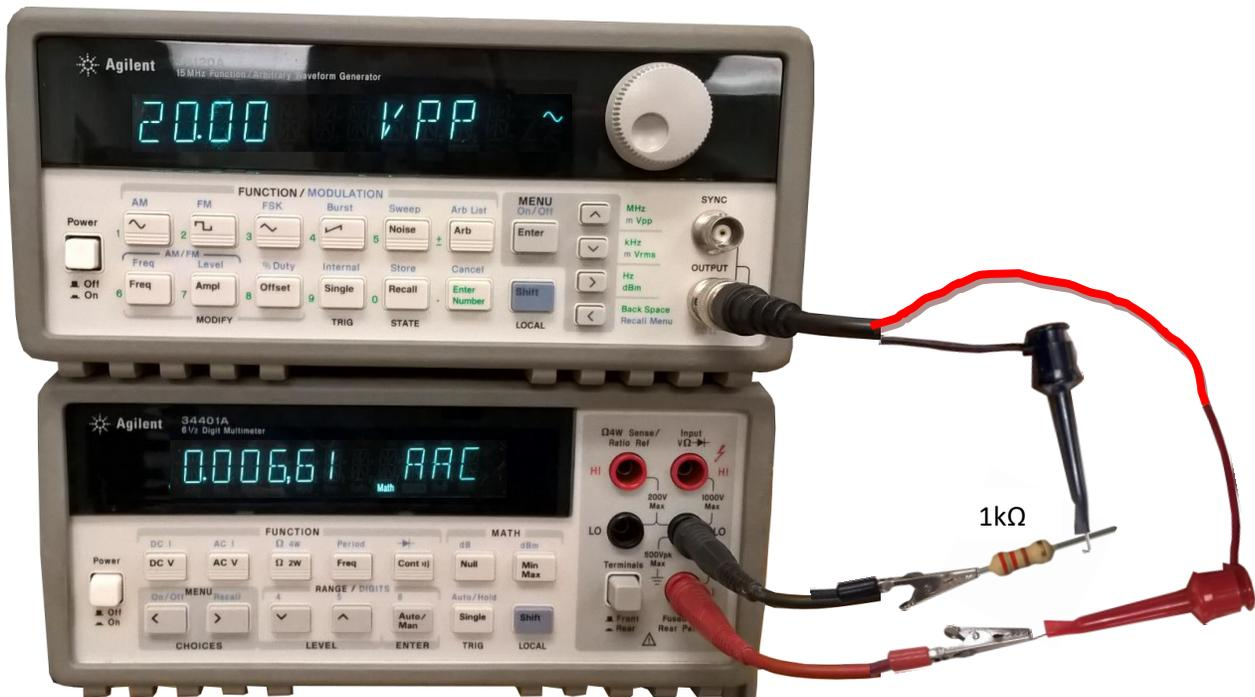

Figure 11: Setup to measure alternating current.
8. Using banana to alligator cables for the DMM and BNC to grabber cables for the signal generator, use a 1k Ohm resistor and construct the diagram in figure 11.